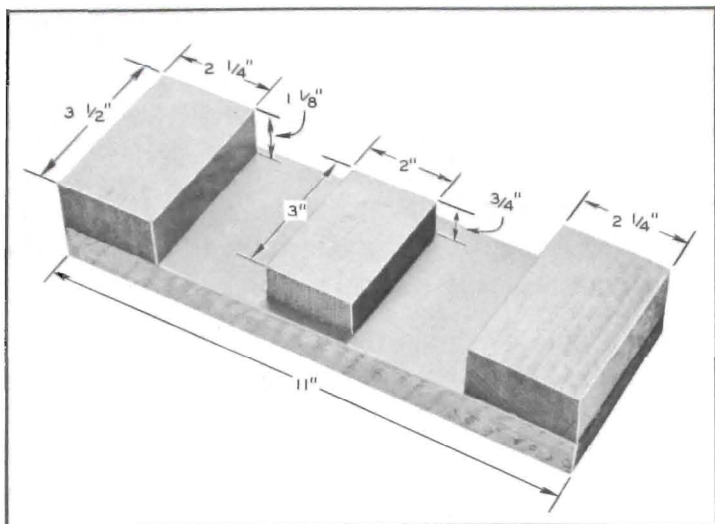

Figure 5-52—Two Position Stator Assembling Fixture
2. Place the rear carrier and piston on center block of fixture to hold the piston in position. See suggested fixture shown in Figure 5-52.